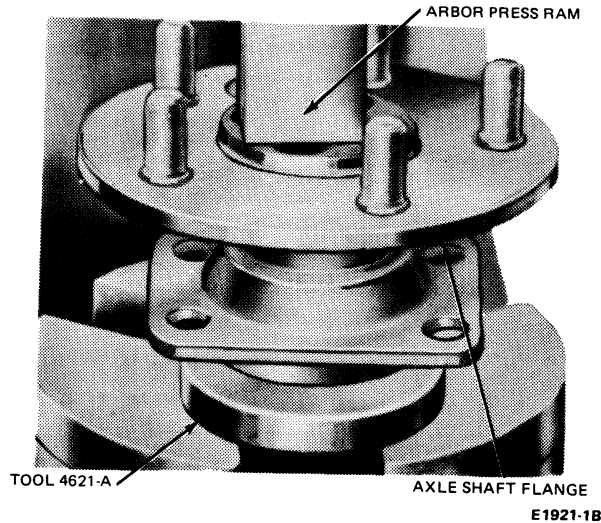

FIG. 10 Installing Rear Wheel Bearing
2. Place the bearing retainer plate on the axle shaft and press the new wheel bearing on the shaft with Tool 4621-A or equivalent (Fig. 10). Do not attempt to press on both the bearing and the inner retainer ring at the same time.